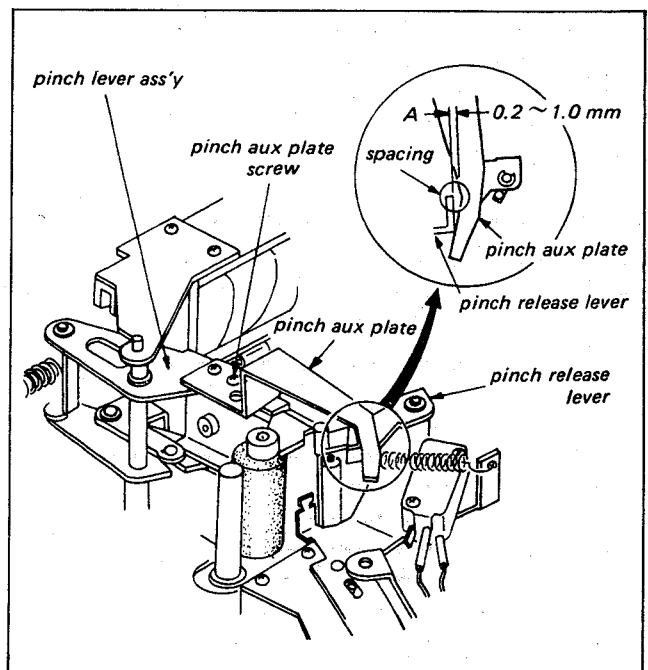

Fig. 6-26. Pinch aux plate position check
2. Observe the Pinch Aux Plate shown in Fig. 6-26. Check to see that there is clearance of 0.2 ~ 1.0 mm between the Pinch Aux Plate and the Pinch Release Lever by inserting a thickness gauge in between. If the clearance is not 0.2 mm ~ 1.0 mm, loosen the Pinch Aux Plate securing screw and adjust its position for the specified clearance.